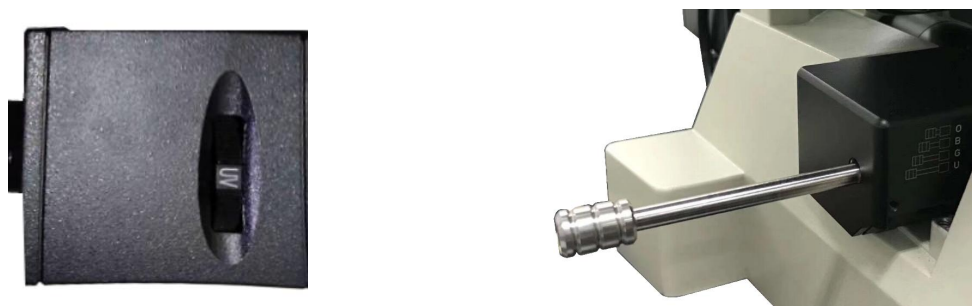

Figure 09
2. Select the lighting source you want on the light illuminator. If you need UV lighting, select UV (as shown in Figure 09).